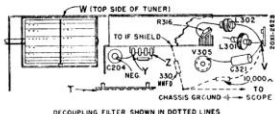

Figure 29. Bottom View of Chassis Showing Alignment Connection Points.
- Alignment adjustments, connection points, and response curve are shown in Figures 29, 30, 31.
- Alignment adjustments, connection points, and response curve shown in Figs. 29, 32, 33.
- Connect oscilloscope between point "V" and chassis ground through a decoupling filter (see figure 29). Keep oscilloscope leads away from chassis. Chassis Voltage at point "V" is approximately 130 volts DC.
- Connect oscilloscope between point "V" and chassis ground through a decoupling filter; see fig. 29. Keep leads away from receiver. Caution: Voltage at point "V" is approximately 120 volts DC.
After becoming familiar with alignment procedure, some servicemen simplify subsequent alignment of sets by using merely the essential alignment data given in figures 29 and 30.
- Alignment adjustment and connection point are shown in figures 29 and 30.